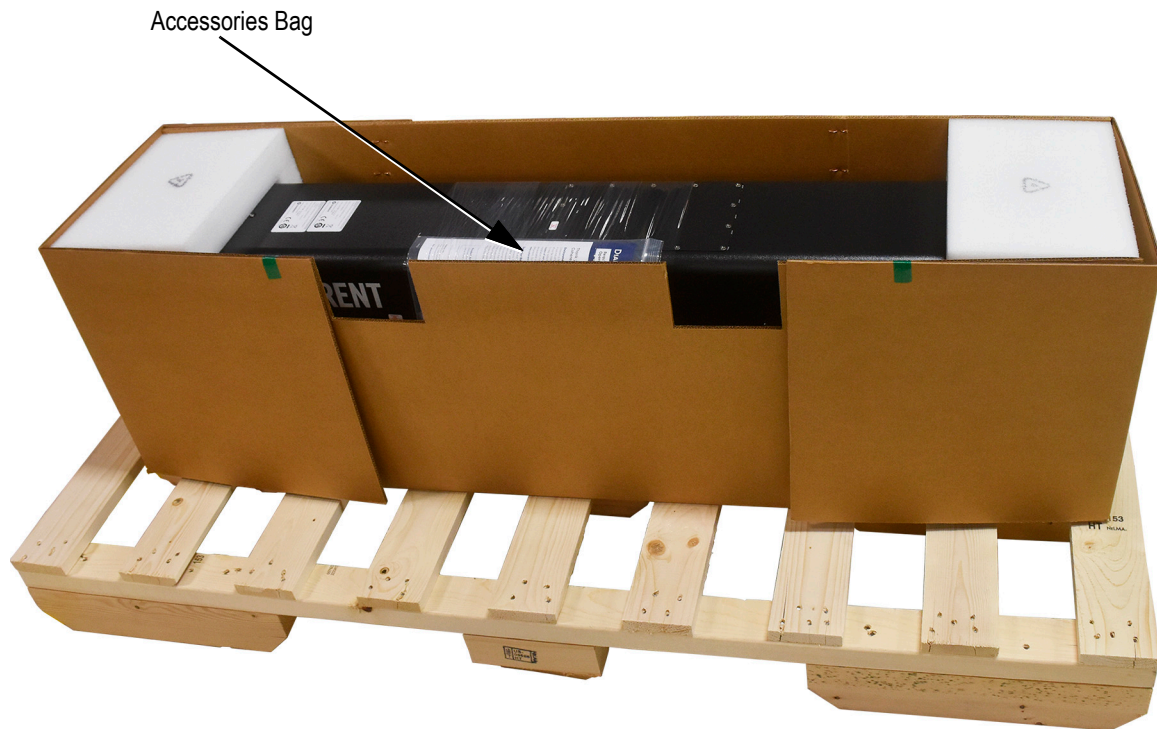

Figure 4-10. Removing the User Documents and Eyebolts
2. Locate and remove user documents and lifting eyebolts from the accessories bag (Figure 4-10).